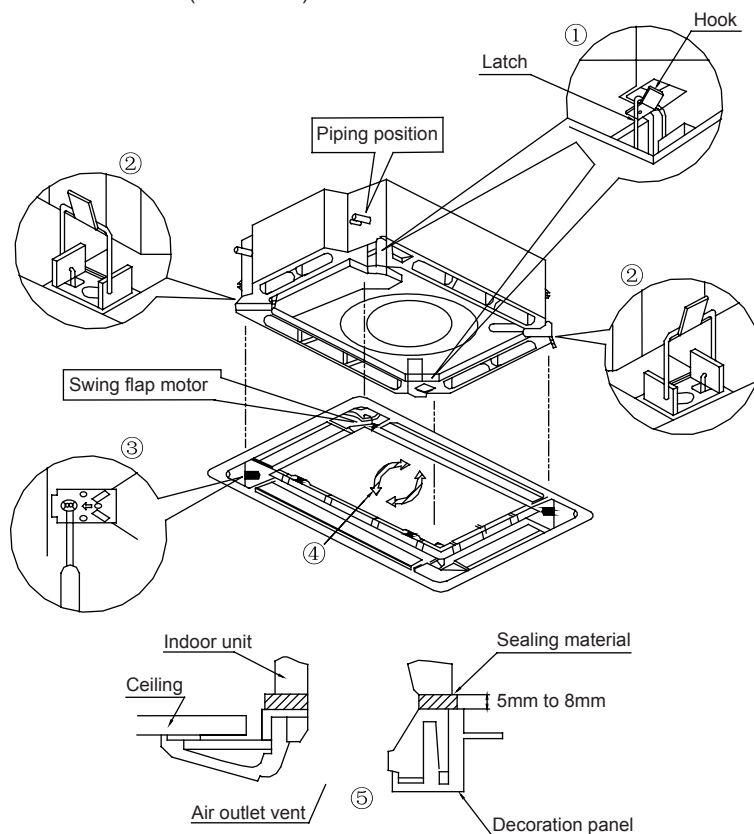

Fig. 13
1. Set the panel to the indoor unit body by matching the position of the swing flap motor of the panel to the piping position of the indoor unit as shown in Fig. 13.
- (1). Install the panel on the indoor unit temporarily. Hang the latch on the hook that is located on the opposite side of the swing flap on the panel of the indoor unit. (2 positions)
- (2). Hang the remaining 2 latches to the hooks on the sides of the indoor unit. (Be careful not to let the swing motor lead wire get caught in the sealing material.)
- (3). Screw the 4 hexagon head screws under the latches in about 15mm (1/2 in). (The panel will rise)
- (4). Adjust the panel by turning it toward the direction pointed by the arrow as shown in Fig. 13, so that the adjust board connect the ceiling well.
- (5). Tighten the screws until the thickness of the sealing material between panel and indoor unit reduced to 5 ~ 8mm (1/4 ~ 1/8 in).